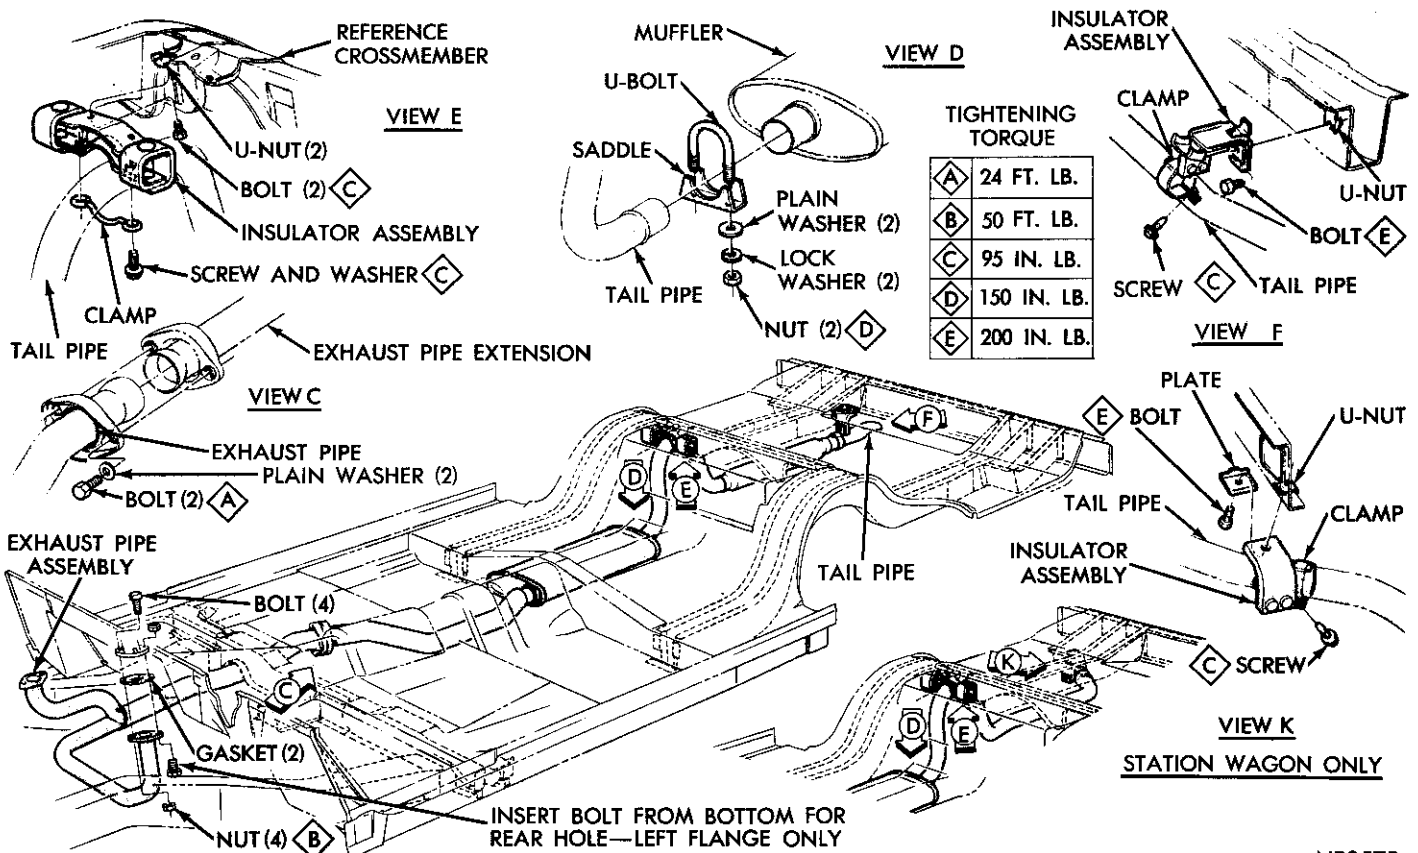

Fig. 1—Single Exhaust System
The single line exhaust system, used on Chrysler and Imperial models (Fig. 1), uses mufflers made of aluminized steel components. This system, when used on all models except station wagons, uses in addition to the conventional muffler, a straight-through resonator type muffler located rearward of the kick-up.
(1) Raise vehicle on hoist and apply penetrating oil to all clamp bolts and nuts to loosen rust and corrosion. If only the muffler is to be replaced, cut the extension pipe just forward of the muffler with a hack saw or cutter. It is not necessary to remove the exhaust pipe. The replacement muffler can be installed, using a U-bolt and saddle clamping arrangement at the front of the muffler.
(2) Remove clamps and supports from exhaust pipe, muffler and tail pipe (Figs. 1 and 2).
(3) Remove bolts at ball joint connections.
(4) Disconnect exhaust pipe at exhaust manifolds and remove exhaust pipe. Discard gaskets and carefully clean manifold flanges of any gasket particles.
(5) Remove muffler and extension pipe.
(6) Raise rear end of vehicle to relieve body weight from rear springs and remove tail pipe.
(1) Assemble exhaust pipe, muffler and tail pipe loosely to permit proper alignment (Figs. 1 and 2).
(2) Assemble exhaust pipe to exhaust manifolds,